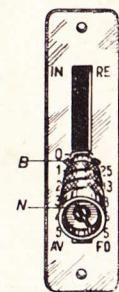

fig. 31
- 15) In order to obtain perfect results, set the stitch length regulating lever N (Fig. 31) as near « O » as possible, in order to obtain the shortest stitch. The tension of the lower thread is to be rather loose and the tension spring of the bobbin case is to be adjusted accordingly.